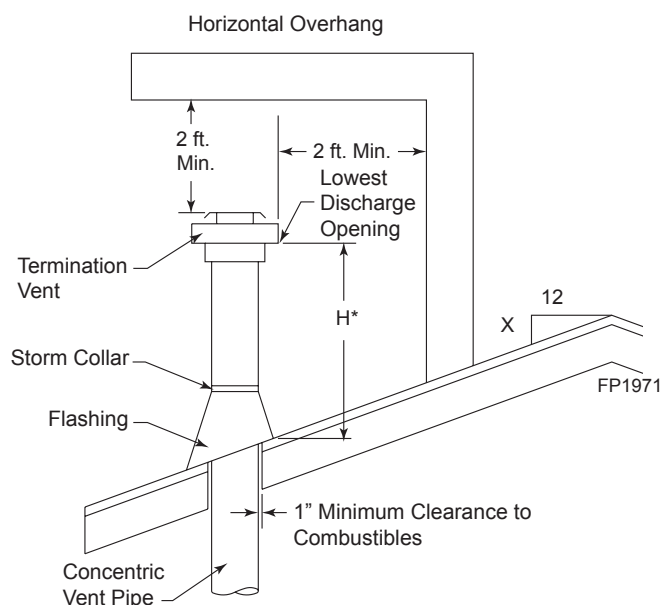

Figure 40 - Minimum Chimney Clearance
- For the minimum height of the vent above the highest point of penetration through the roof refer to *Page 23*, *Figure 40*.